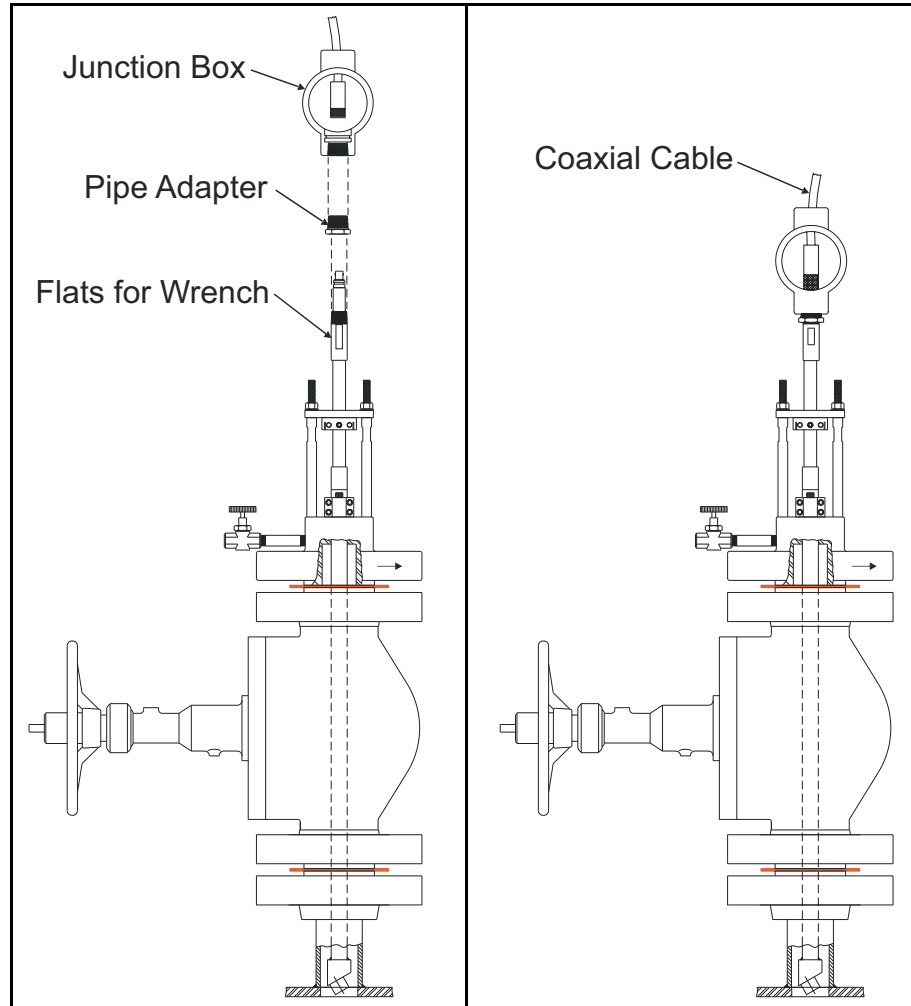

Figure 31: Installing the Junction Box and Transducer Cable
- Attach the pipe adapter to the 1/2" NPT thread of the transducer, and then attach the junction box to the pipe adapter. Use a wrench on the flats of the transducer body to prevent transducer rotation when installing the junction box (see *Figure 31* below).
- Connect a coaxial cable to the transducer to complete the installation for this port (see *Figure 31* above).